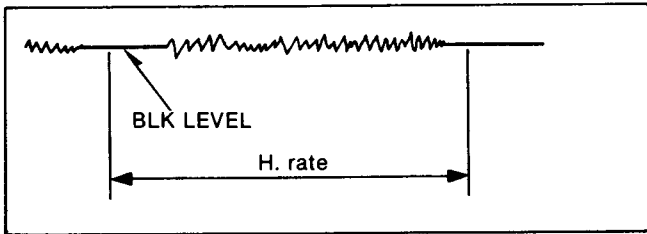

Fig. C9
- (1) Cover the Camera Lens with the Lens Cap.
- (2) Connect the scope to TP2 and trigger with Pin 12 of B302 (H-Rate).
- (3) Adjust the Pedestal Level Control (VR305) so that the signal level equals the BLK level as shown in Fig. C9.
- (1) Aim the camera at the gray scale chart.
- (2) Connect the scope to TP1 and trigger with Pin 12 of B302 (H-Rate).
- (3) Adjust the Camera Unit to obtain 40usec as shown in Fig. C9.
- (4) Adjust the Auto Iris Control (VR301) so that the signal level is 0.30V $\pm$ 0.02Vp-p.